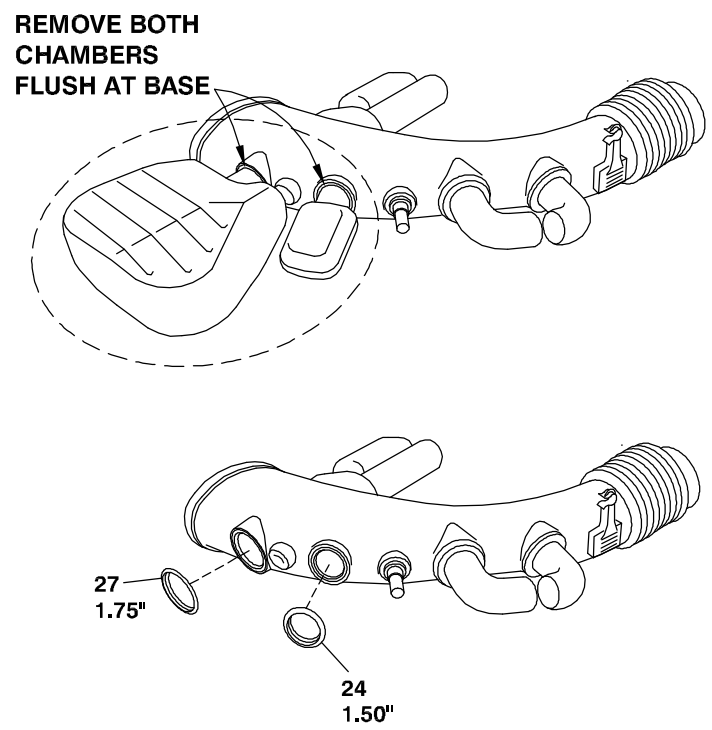

FIG. 5
9. Remove the nuts holding the capacitors (15) at Locations A and B. Remove the two OEM stud bolts from Locations A and B. Remove the bolt from the OEM idler at Location C, leaving the idler in place.
10. Hold the pump bracket (1) in place on the engine to check for interference. It may be necessary to grind the underneath corner of the pump footmount pad as in Fig. 5. Attach the pump bracket (1) to the engine at Location A using the M8 x 110 bolt (24) and M8 flat washer (26), and at Location B using the M8 x 120 bolt (12) and M8 flat washer (26), placing one capacitor (15) on top of the bracket before inserting the bolt at Location B. Attach the bracket at Location C (on top of the existing idler) and D each with an M8 x 50 bolt (13) and M8 flat washer (26).
11. Install the tensioner (4) on the pad on the passenger side of the bracket with an M10 x 80 bolt (14) and 3/8 flat washer (10) placing the locating pin in the small hole.
12. Attach the idler (5) to the boss on the driver's side of the pump bracket with the M10 x 60 bolt (9) and 3/8 flat washer (10).
13. Install the pump footmount (2) to the pad on top of the bracket, aligning the keyway on the footmount with the key on the bracket. Place the other capacitor (15) on the rear bolt hole. Loosely thread four 3/8 x 1 1/4 bolts (11) and four 3/8 flat washers (10) into the holes.
14. Attach the pump (7) to the back of the footmount (2) using two 3/8 x 1 1/4 bolts (11) and two 3/8 flat washers (10).